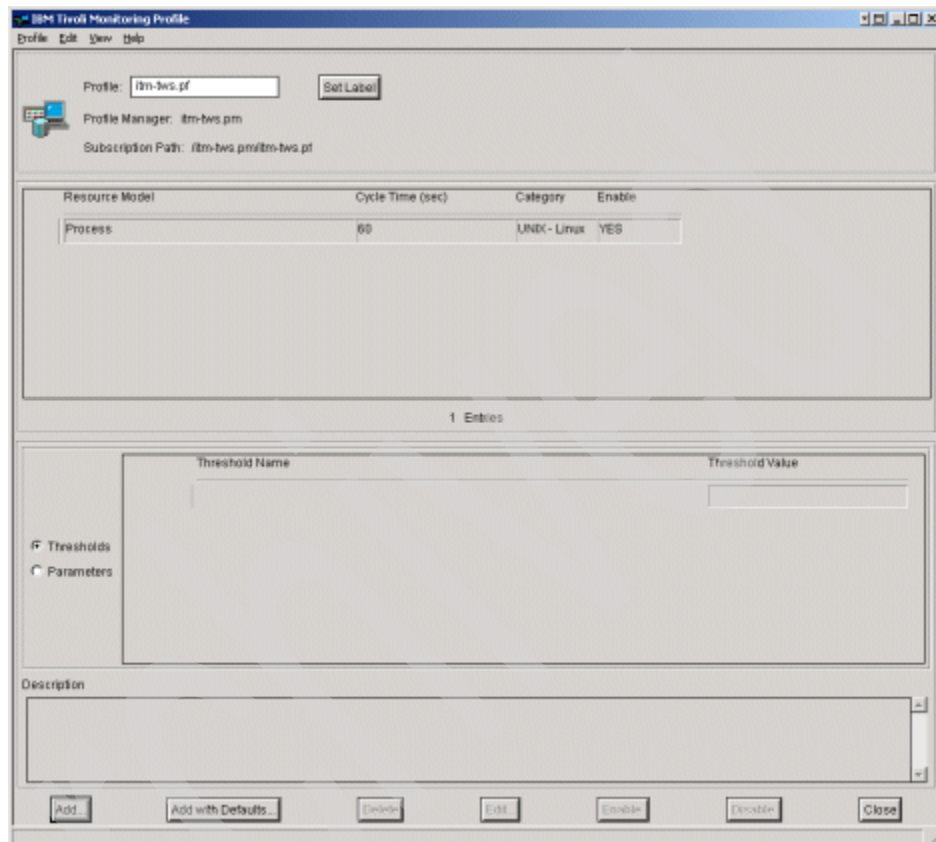

Figure 9-106 Process resource model for netman process added to itm-tws.pf profile
8. Select **Add & Close**. You are returned to the Tivoli Monitoring Profile window for the itm-tws.pf profile, with the Process resource model added to the Resource Model list, as shown in Figure 9-106.